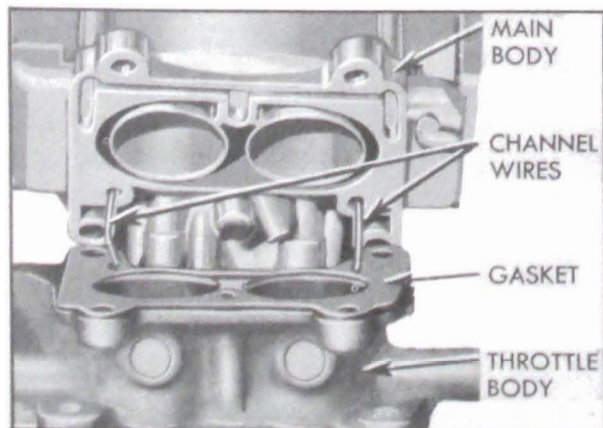

Figure 3-76—Location of Idle Channel Wires
9. Place *new* main body gasket on throttle body. Insert *short* ends of idle channel wires in idle channels of throttle body and guide opposite ends into idle channels in main body as it is placed on throttle body. See figure 3-76. Install long main body attaching screws on same side as idle needle valves and short screws on opposite side, using lockwashers on all screws.